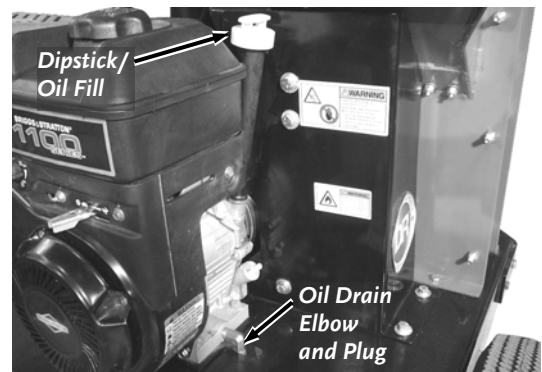

Figure 21
2. Remove the Oil Drain Plug from the Oil Drain Elbow with a 5/8" wrench (**Figure 21**). Allow the used oil to drain completely, and then replace the Oil Drain Plug.